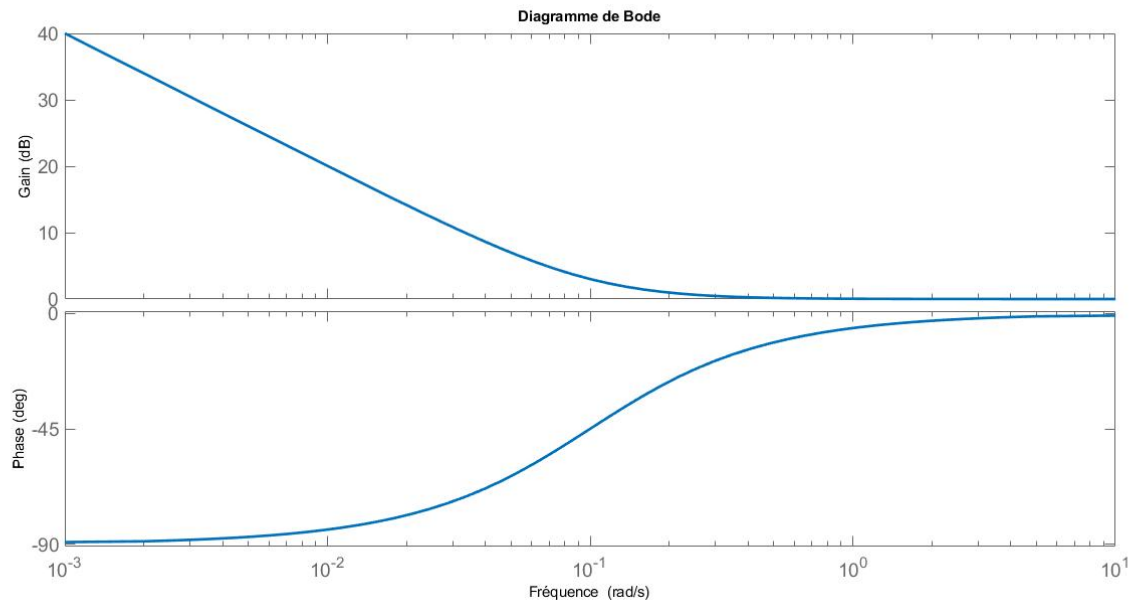

Figure 2: Bode Diagram of $G_1(s)$
The characteristics of these two transfer functions are shown in figures 2 and 3:
- 1) $G_1(s)$: See the Bode diagram shown in figure 2.